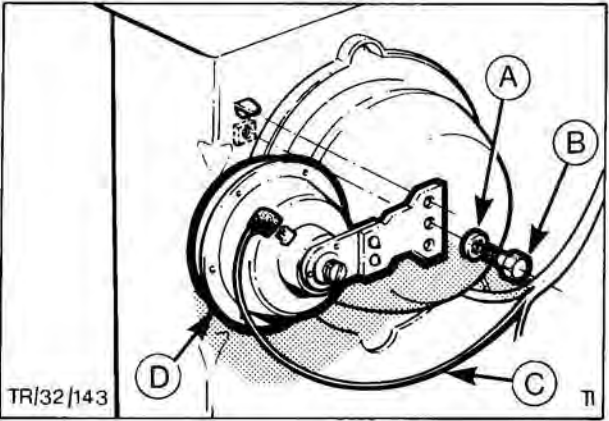

Fig. 42. A – Washer
2. Disconnect horn wiring, Fig. 42.